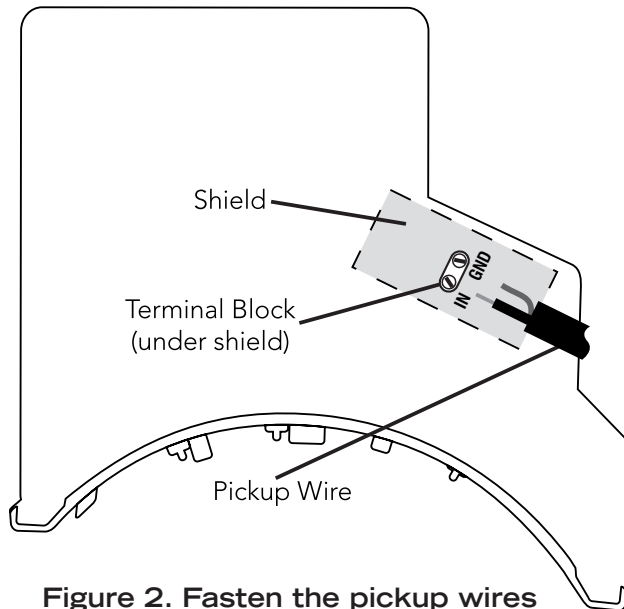

Figure 2. Fasten the pickup wires
4. Fasten the pickup wires to the terminal block on the preamp module (figure 2). The signal wire goes to the terminal marked "IN," and the shield wire goes to the "GND" terminal. Tighten the screws on the terminal block to secure the wires.